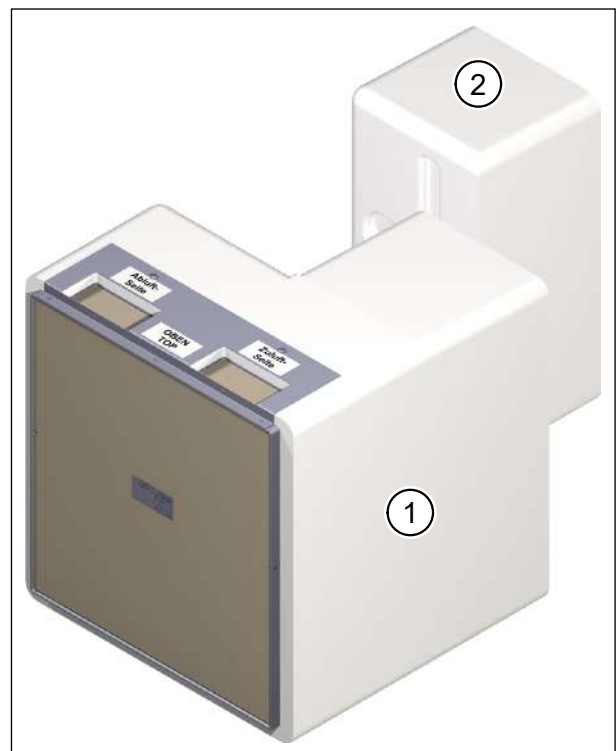

Fig. 1: Installation kit M-WRG-M/MB-U2 and optional filler piece M-WRG-M/Fü
This manual describes how to flush-mount the M-WRG-M/MB-U2 installation kit (item 1 in Fig. 1) in solid walls and frame constructions. This installation kit is used to integrate the M-WRG-S... ventilation units series fully into the wall. Two flat ductwork connections **or** two flexible pipe connections **or** one flat ductwork connection and one flexible pipe connection may be used in the extract air and supply air openings. In solid constructions, if a complete wall aperture is planned for the installation kit in a new build, for example, or if a complete wall breakthrough is planned for a retrofit, the optional filler piece M-WRG-M/Fü (item 2 in Fig. 1) can be used to pack out the wall. If required, the filler piece can be used in the same way in a frame construction.